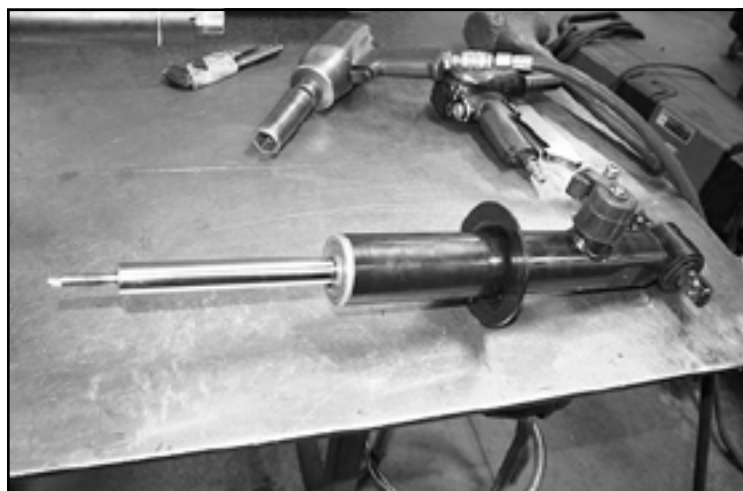

FIGURE 24 - STEP 17
17. Remove the foam bump stop, struct body cap and save. Then, slide off the lower coil spring perch plastic isolator. **SEE FIGURE 24**